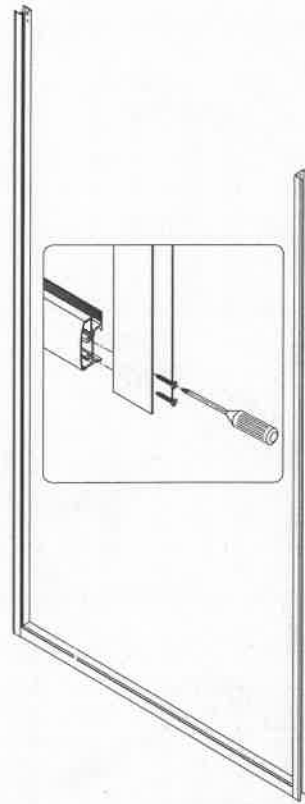

Fig2
2. Secure bottom **Guide rail (02)** and **Aluminum profile (05)** with **Round head screws ST4.2x25 (08)**. See Fig 2 for details. Repeat the same for upper **Guide rail (02)**.